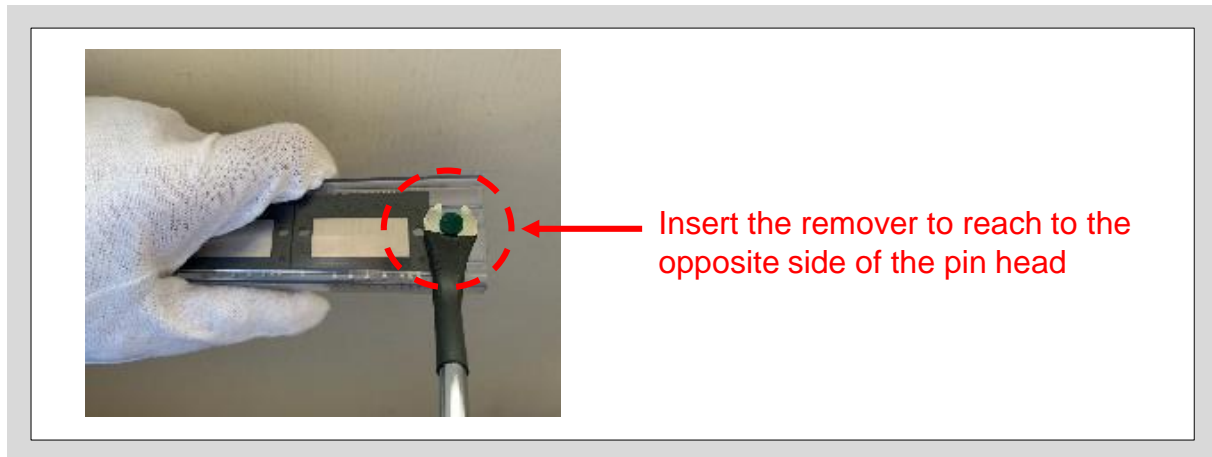

Fig. 2-4 Insert remover
C) Insert the removal part of the remover into the gap between the pin and the tube. (See Fig. 2-4)